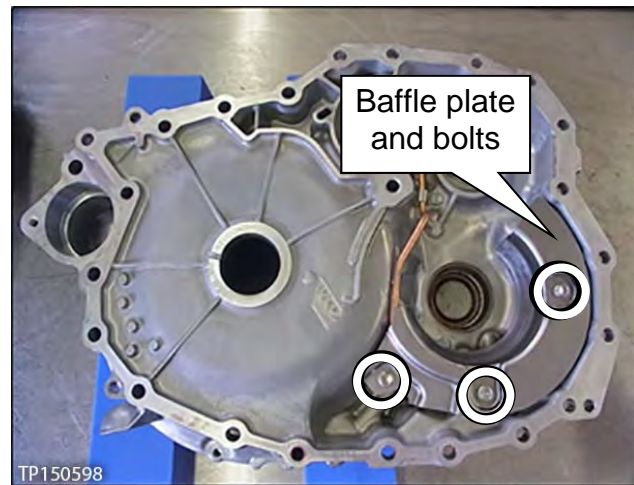

Figure 123
a. Remove the three bolts, and then remove the baffle plate from the converter housing (Figure 123).